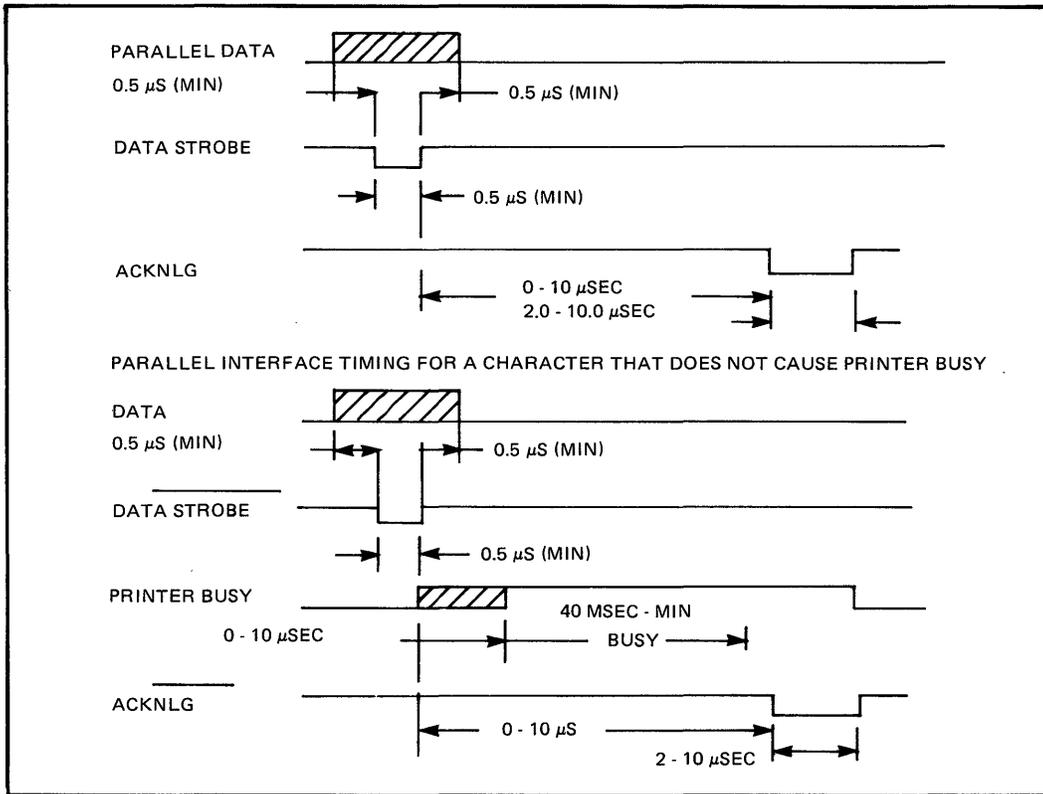

FIGURE 6 – LBP Parallel Interface Timing
printer to go busy until either the buffer is cleared or printing begins. In addition, CR, LF, FF, VT, Delete, and DC3 characters will also cause busy conditions. This enables the transmitting device to only look at busy status following the transmission of a block of 132 printable characters or less, instead of after each character. (See timing diagrams, Figures 6 and 7.)
4. See appropriate timing diagram for LBE, LBP, and LBT, Figures 6 and 7.